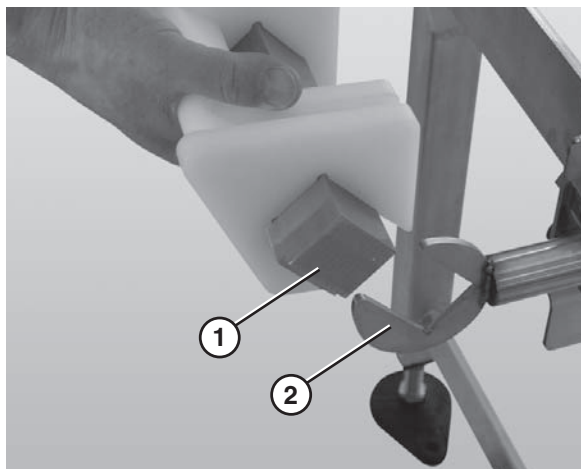

Figure 22
4. Attach the nose bar transfer post (**Figure 22, item 1**) to the nose bar idler shaft hands (**Figure 22, item 2**).